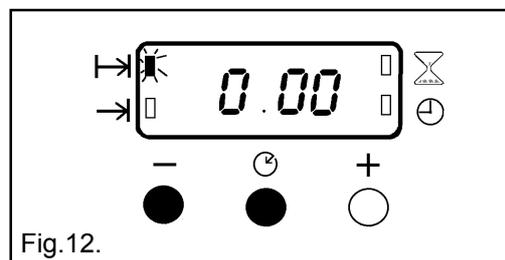

Fig.12.
- i) To cancel an automatic programme press the Selector Control button until the 'Cook Time' indicator (H→) neon flashes. Press the decrease control ( - ) until the display reads 0.00 as Fig. 12.